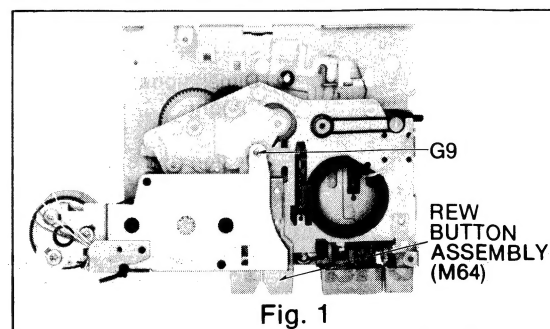

Fig. 1
- When checking operation after removing the mechanism unit from the bottom case, the REW button (M64) should come off easily. Tighten it temporarily with a screw G9 (used to stop the bottom case) as shown in Fig. 1 and then check the operation.
- i) Remove three black screws (A) first, then remove the lower plate assembly (M66) and switch angle (M9). Remove them while holding down the REW button assembly (M64) to prevent the FF/REW button spring (M21) from popping out. (Refer to Fig. 1, 2 and 3.)